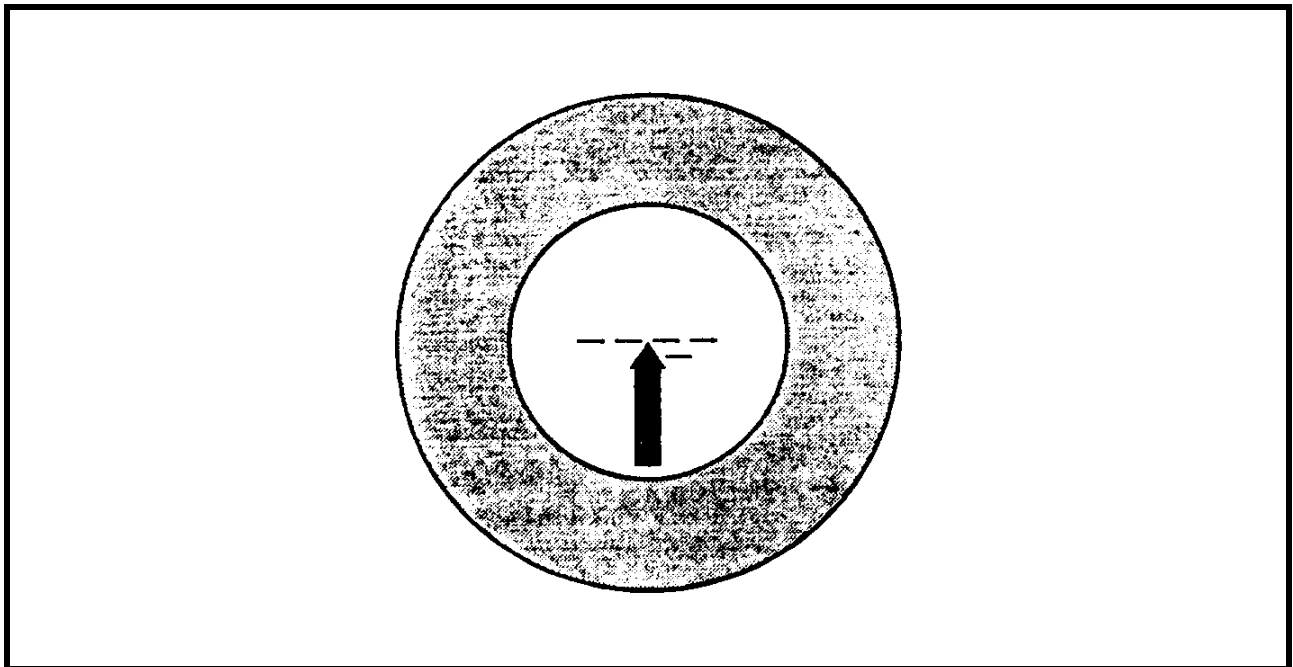

Figure 4-4 Limited Field of View - Incorrect Eye Relief
- (4) **Step Four.** If the target scene does not fill the sight's field of view, the optical sight must be repositioned on the mounting bracket (see Figure 4-4). Repeat steps two and three to ensure a proper hold and aim is maintained.